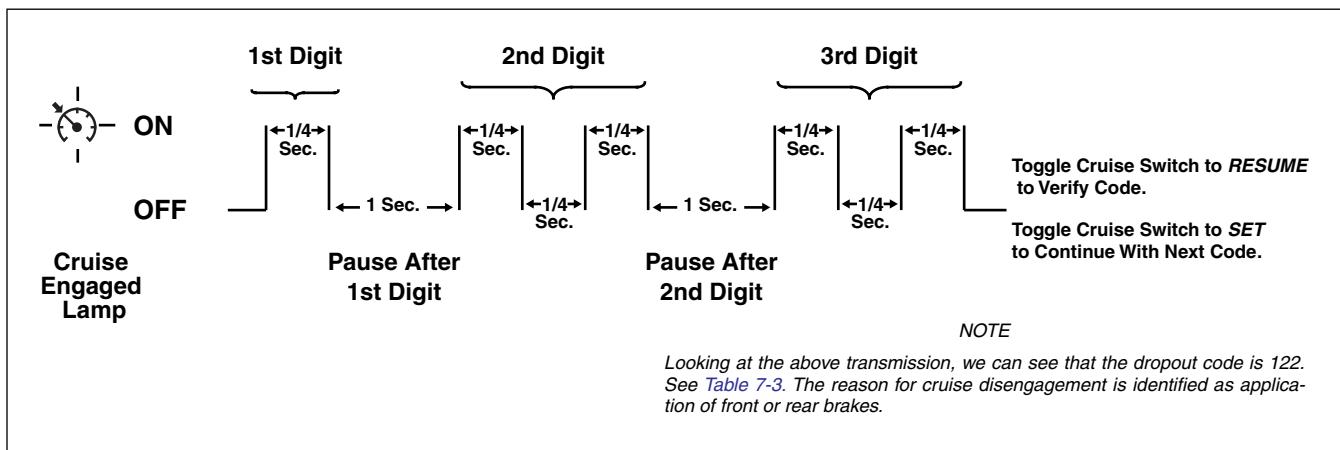

Figure 7-5. Cruise Engaged Lamp Dropout Code Timing Diagram
- Following transmission of the first digit, there is a one second pause in which the lamp is off. The lamp will then flash one or more times to indicate the second digit of the dropout code. Count the number of times the lamp flashes to retrieve the second digit. See Figure 7-5.